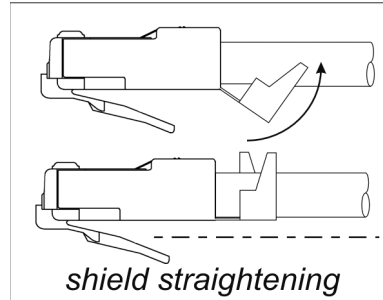

Fig.3.
- ❑ **IMPORTANT: Straighten the plug-cable assembly according to Fig.3, as it may be bent during the wire inserting.**